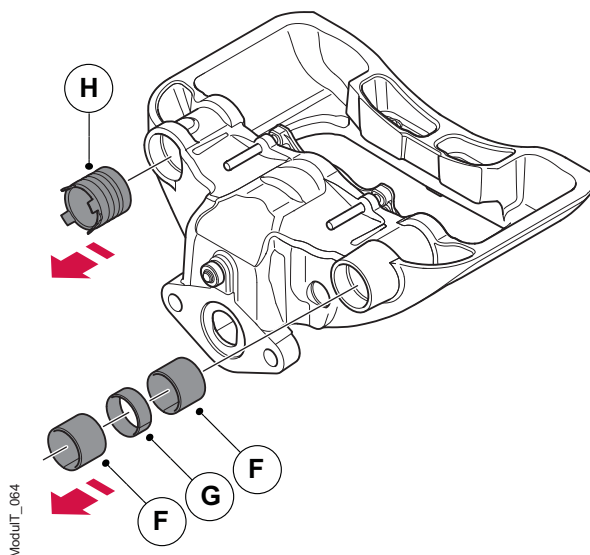

Figure 54. Remove the slide bearings and composite side bushing
7. Carefully follow steps 8 and 9 below to remove the two leading bearings (F) and the spacer (G) and trailing composite bushing (H), see figure 54.